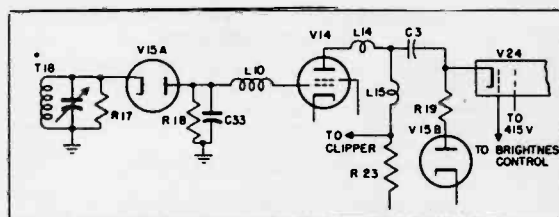

Fig. 5. Video Detector and Amplifier
**3. VIDEO DETECTOR AND AMPLIFIER (SEE FIGURE 5)**—The video i-f amplifier output is applied to a diode rectifier, V15A, and the diode load, R18, is connected so as to develop a negative-going signal at this point. This signal is amplified by the pentode amplifier, V14, and then applied to the cathode of the picture tube, V24, through the coupling capacitor C3. The remaining diode section of V15 is used to provide d-c reinsertion to the picture at the picture tube.